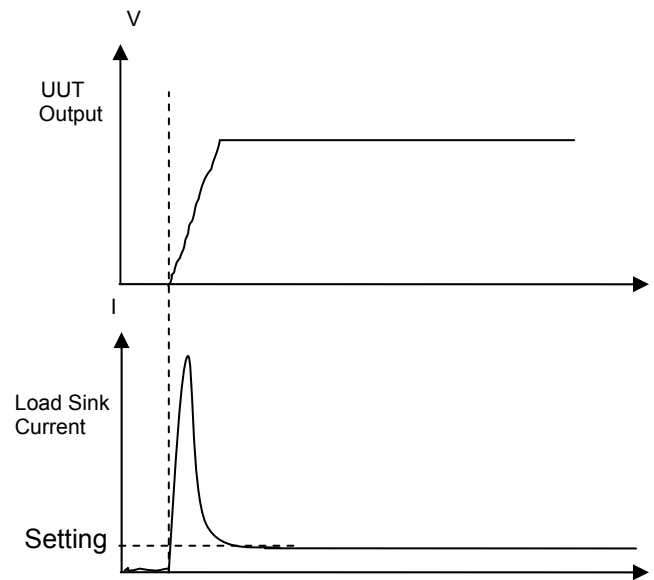

Figure 3-18 When Von Point is set to 0V without Protection
- (1) When it is "LOAD ON", VON POINT is set to 0V and Von Protection is disabled, the DC LOAD will occur overshoot when the SW is turned off. It will damage the UUT and DC Load as Figure 3-18 shows.